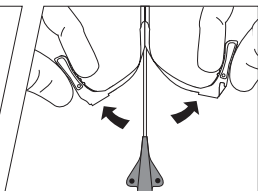

Figure 4
28. Withdraw peel-away sheath over catheter until sheath hub and connected portion of sheath is free from venipuncture site. Grasp tabs of peel-away sheath and pull away from the catheter (refer to Figure 4), while withdrawing from vessel until sheath splits down its entire length.